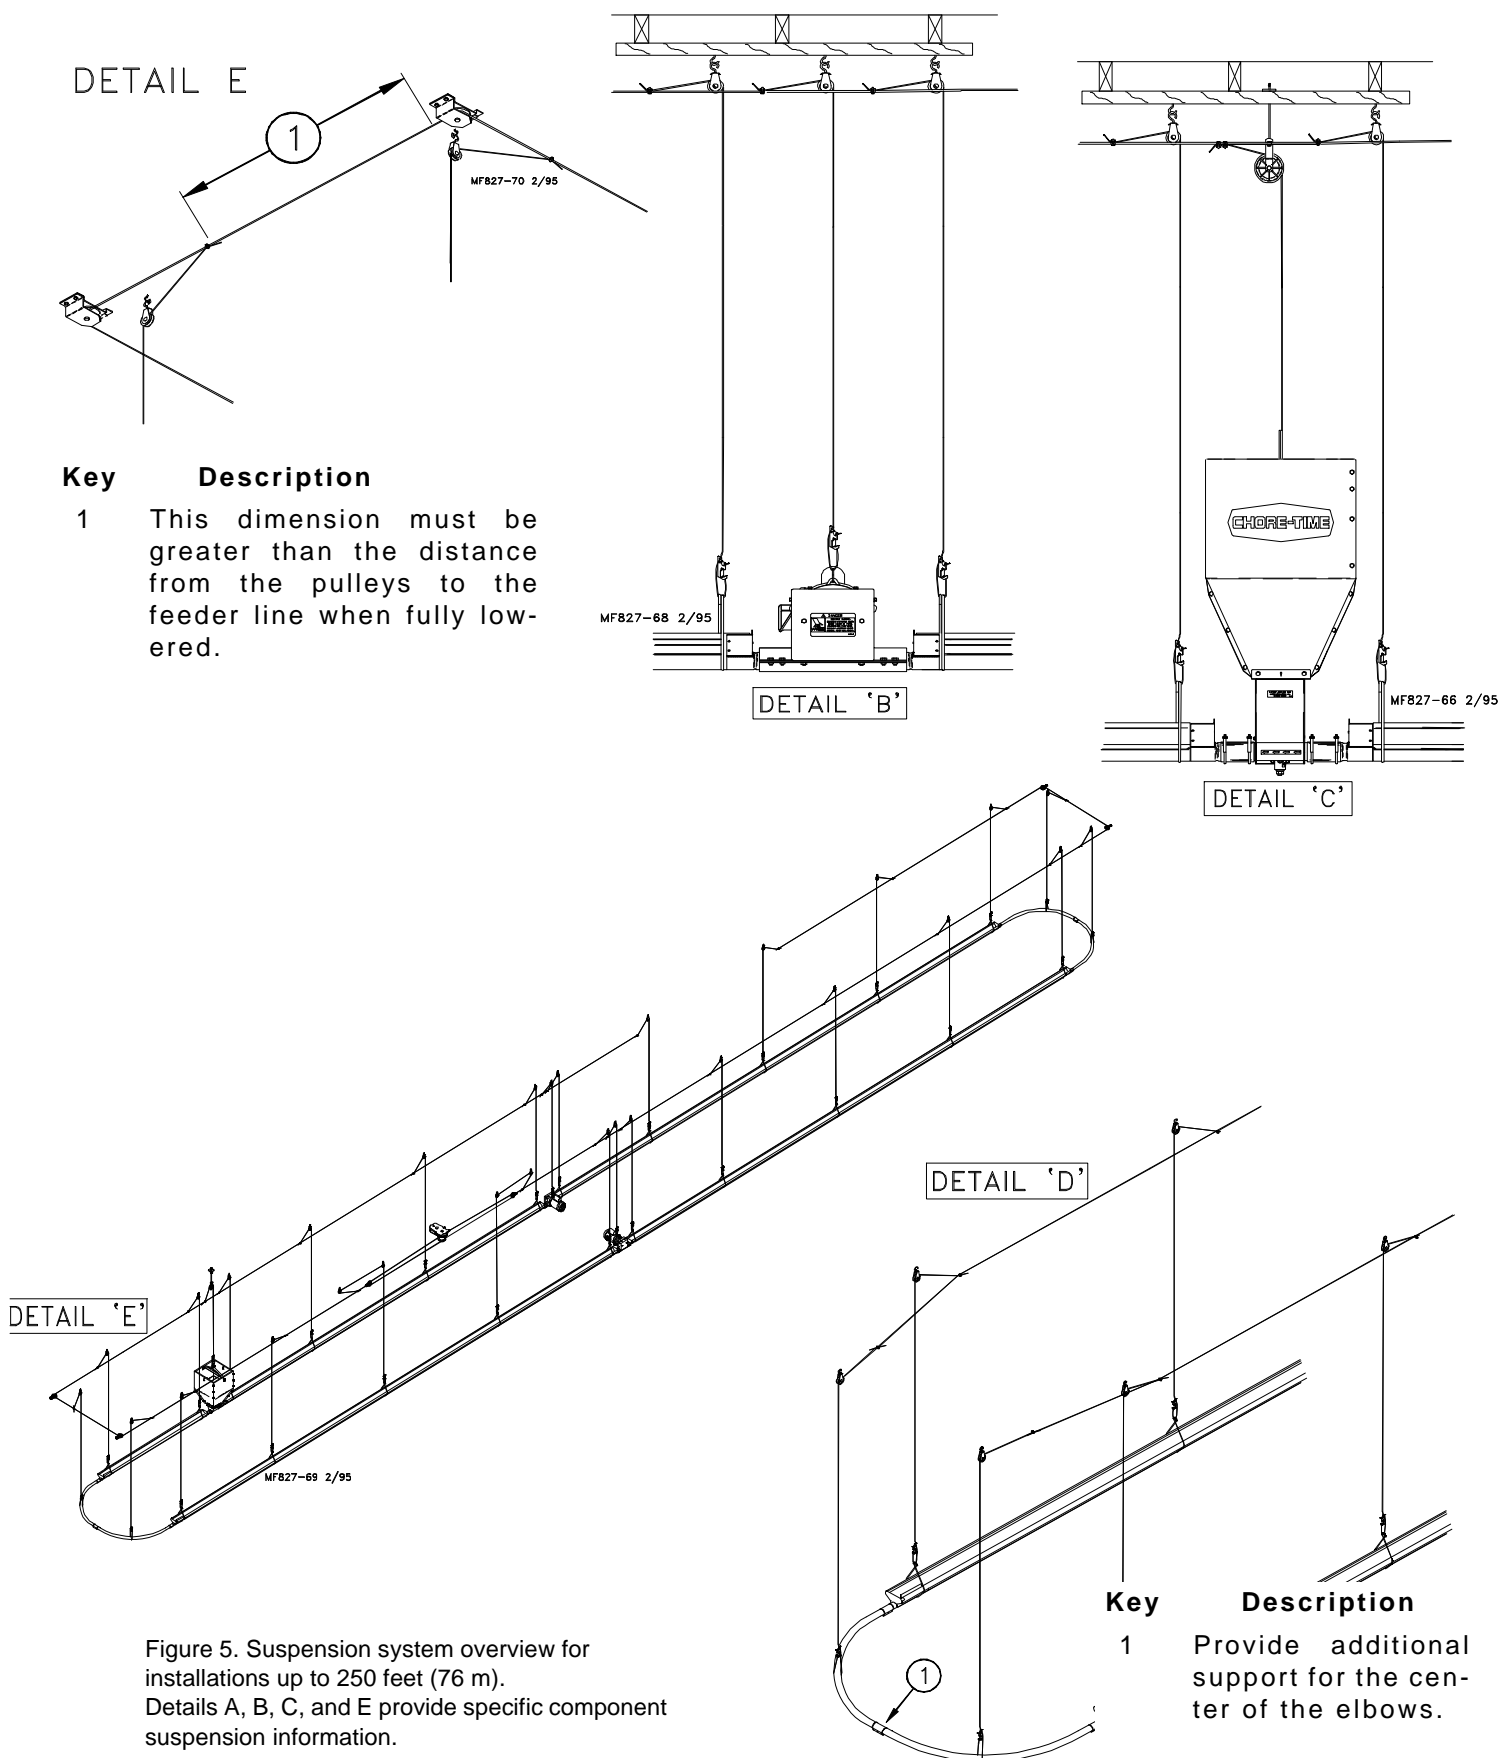

Figure 5. Suspension system overview for installations up to 250 feet (76 m). Details A, B, C, and E provide specific component suspension information.
The feeder line suspension is a vital part of your feeding system. Take time to thoroughly plan the system to insure proper operation. Figure 4 provides an overview of the suspension required for systems 250 feet (76 m) or more. Figure 5, on page 13, provides an overview of the suspension system for installations 250' (76 m) or less, using (1) hopper. Enlarged, detail drawings show critical suspension information.
**LOOP SUSPENSION SYSTEMS UP TO 250 FEET (76 M):** A single winch and suspension system is required to raise (and lower) the entire ULTRAFLO Feeder. Double-backs are required at the winch, as shown in Figure 5 and Detail A. Two cable clamps are required to connect the main cable to the Double Back Pulley. Special Pulley Assemblies are required to route the cable, as shown in Detail E.